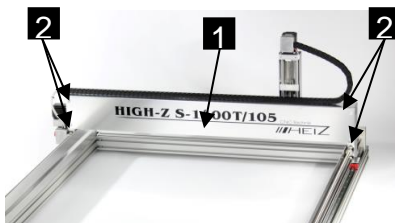

Figure 29: Abdeckung Y-Achse
- 2 Loosen and remove the four screws (Fig. 29/2).
- 3 Remove the cover (Fig. 29/1) on the Y-axis.